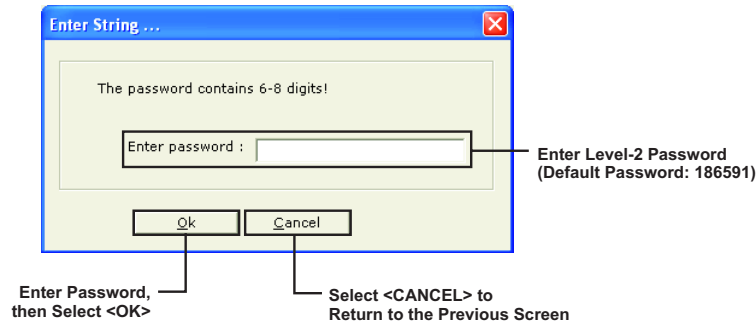

Figure 4-20. Enter Password
1. Select **Tools>Event Log>Clear** to remove all currently recorded events from the system event log. In response, a password request (Figure 4-20) is displayed.
Following selection of the Clear Event Log option, FCS immediately displays the password prompt (Figure 4-20) for **Single Control Unit** installations,